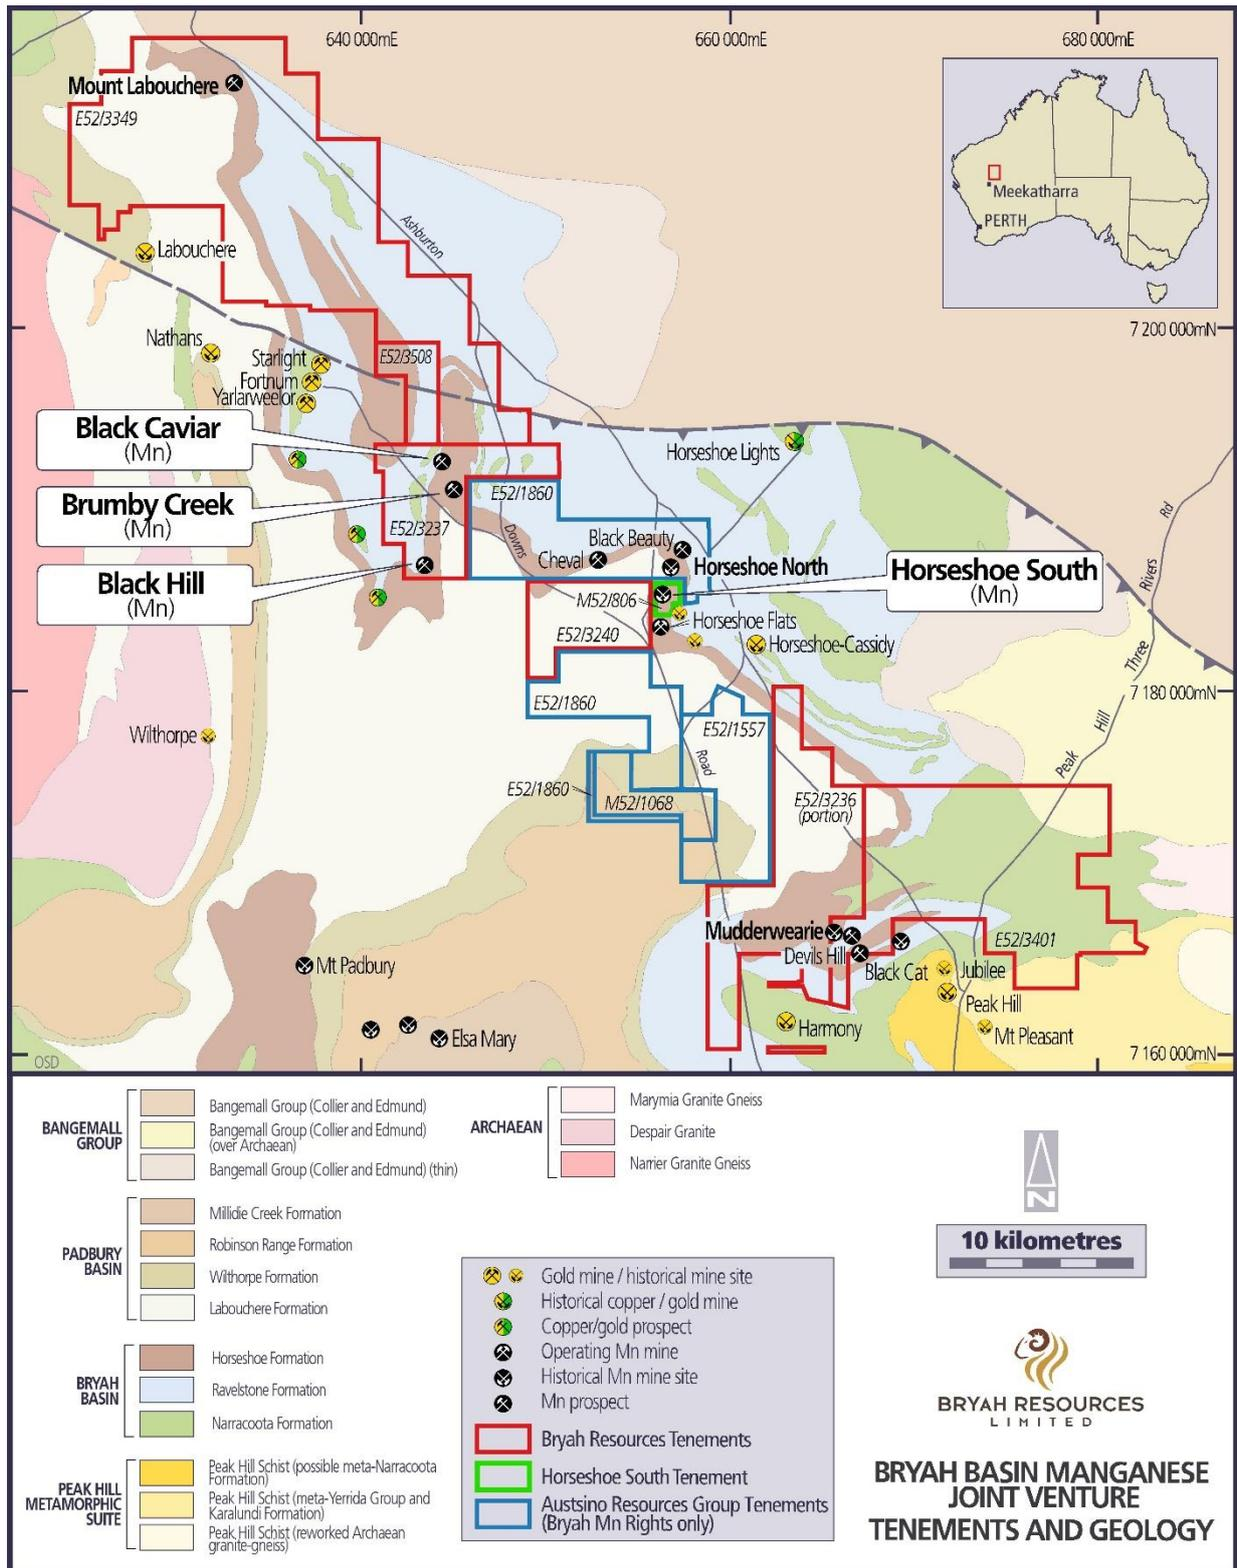

Figure 1 – Bryah Basin Tenements and Geology Plan
A total of 83 holes for 2,081 metres of reverse circulation (RC) drilling was completed in this second programme at four sites; the Brumby Creek, Black Hill and Black Caviar Prospects and the historic Horseshoe South Manganese mine (see Figure 1).